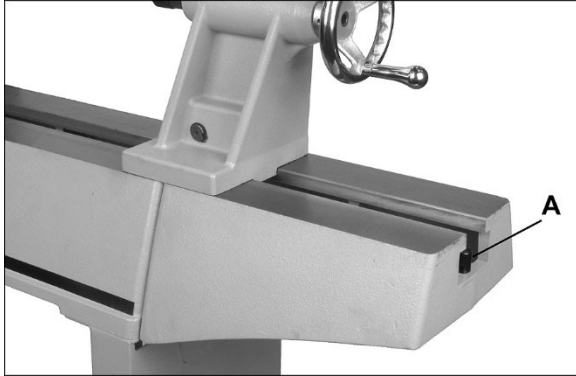

Figure 6-2: optional 13" bed extension
1. Slide tailstock away from edge of bed, and unscrew stud (A, Figure 6-2).
2. Have an assistant hold bed extension flush to end of Lathe bed, and insert four 3/8 x 1-3/4 socket head cap screws with lock washers and flat washers (provided with extension bed) through holes in bed extension into threaded holes on Lathe (8mm hex wrench). Make screws snug but do not fully tighten. See Figure 6-2.
4. Slide tailstock over joint where beds meet, so that clamping nut is centered over joint, as shown in Figure 6-2. Firmly tighten tailstock clamping handle; this will align the beds.